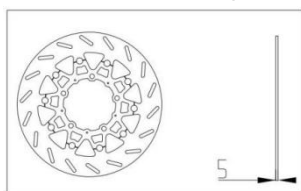

Figure 31 Front brake disc
13.1. Check the front brake disc (Figure 31)